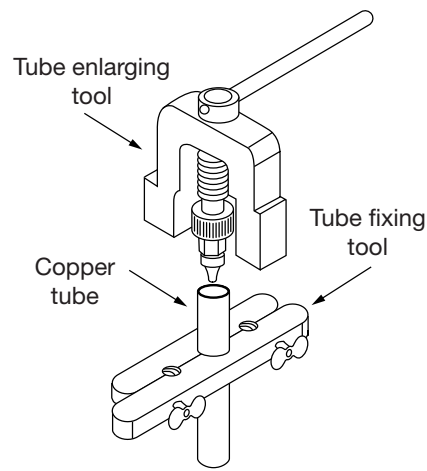

Figure 9
- Expand copper tube with the tube enlarging tool (Figure 9).